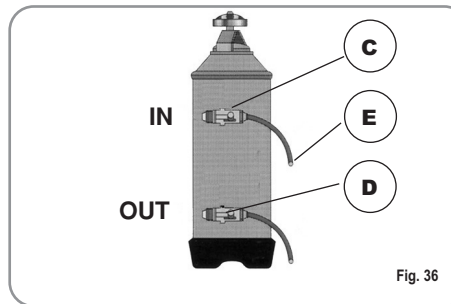

Fig. 36
- 1) Turn the machine off and place a container large enough to contain at least 5 litres under tube E (Fig. 36).